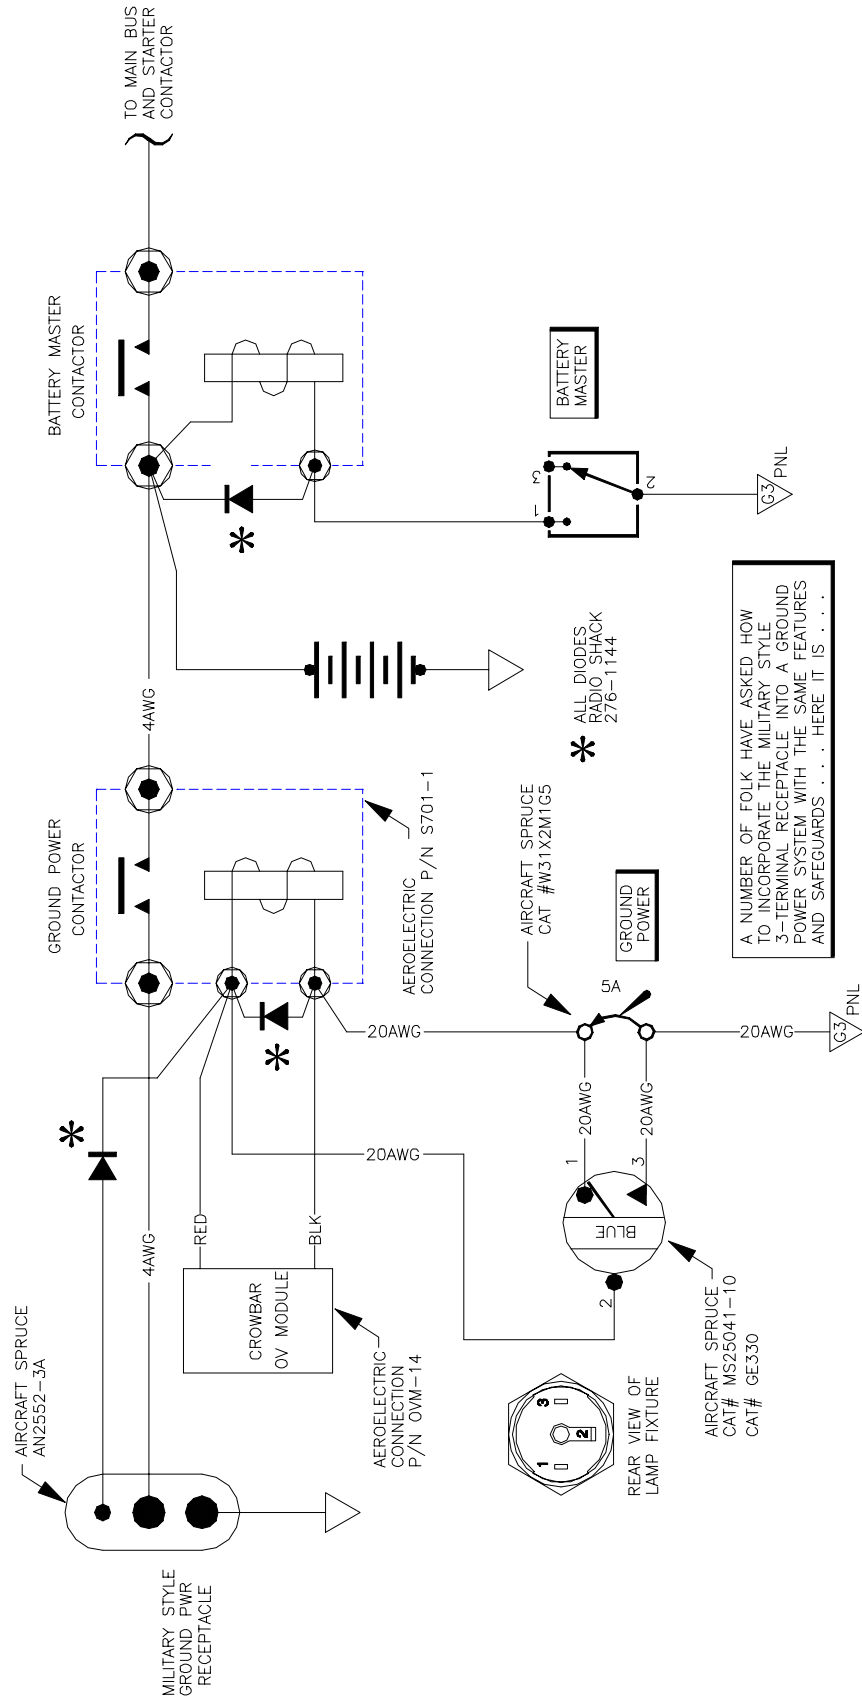

Figure 4. Wiring for Military Style 3-Terminal Receptacle
(18) FBOs with ground power facilities will have a plug that fits this jack. Consider cutting one end off of a set of automotive jumper cables and wiring it into a mating plug. Keep this jumper cable set handy for off-field assistance in battery charging or engine cranking with the aid of a 4-wheeled vehicle.
(19) REVISION A - December 6, 1998. Added Figure 4 to show wiring to accomodate the military style 3-terminal ground power contactor. Eliminated metal oxide varistors (MOV's) in favor of silicon diode spike catchers. This modification maintains consistency with recomendations published in Revision 8 to the AeroElectric Connection.